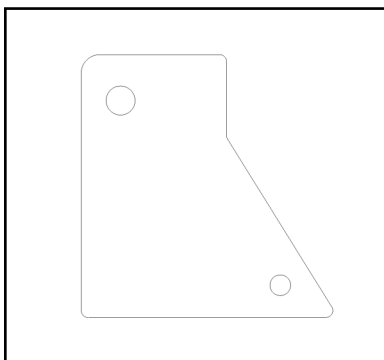

Fig. 1.19a (Image of Right Side Fender Spacer)
- 1.19** Install supplied spacer and lock nut along with the hardware set aside in the previous step. See Figures 1.19a and b.